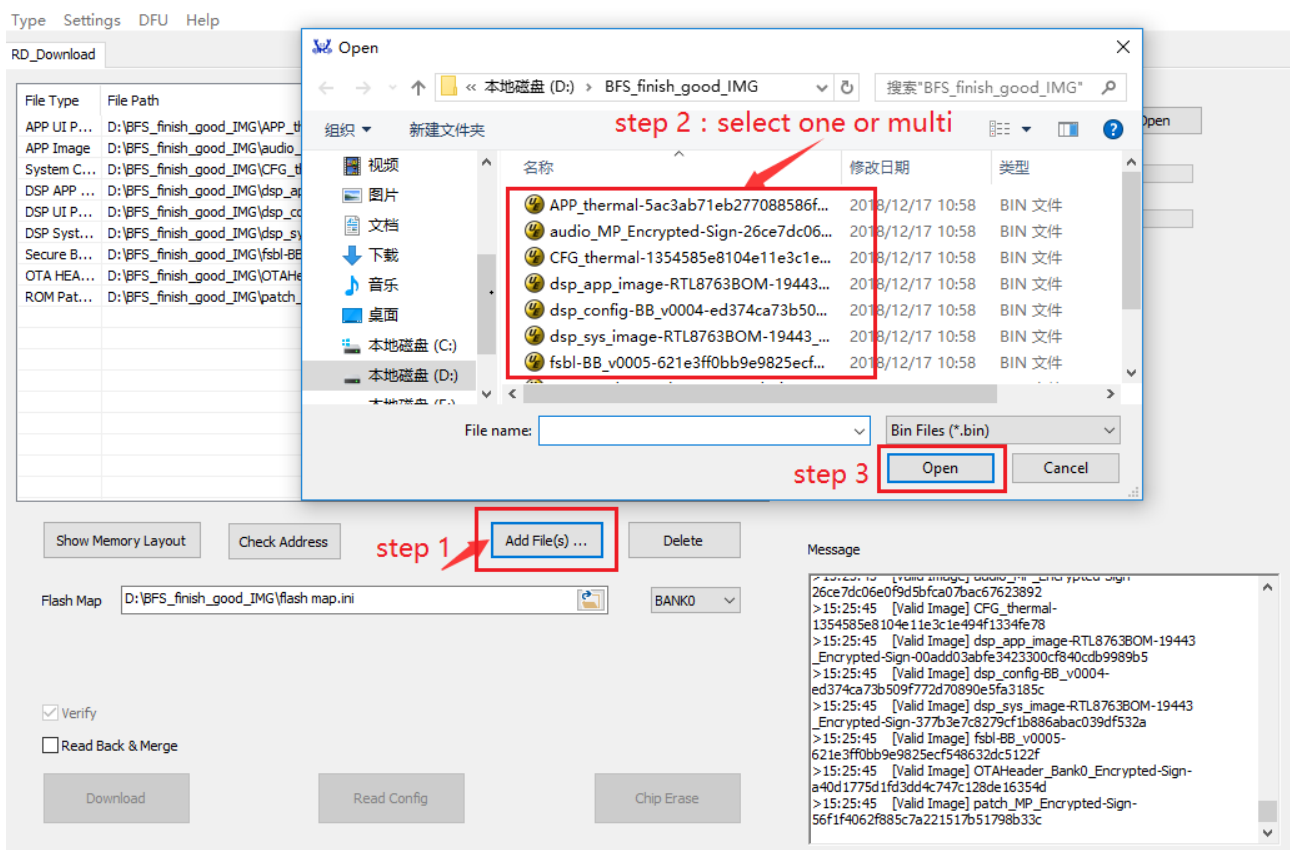

Figure 2-35 Select one or multi bin files
- 1) Click "Add File(s)..." as shown in Figure 2-35. An "Open" dialog will pop up and you can select one or several images at one time.